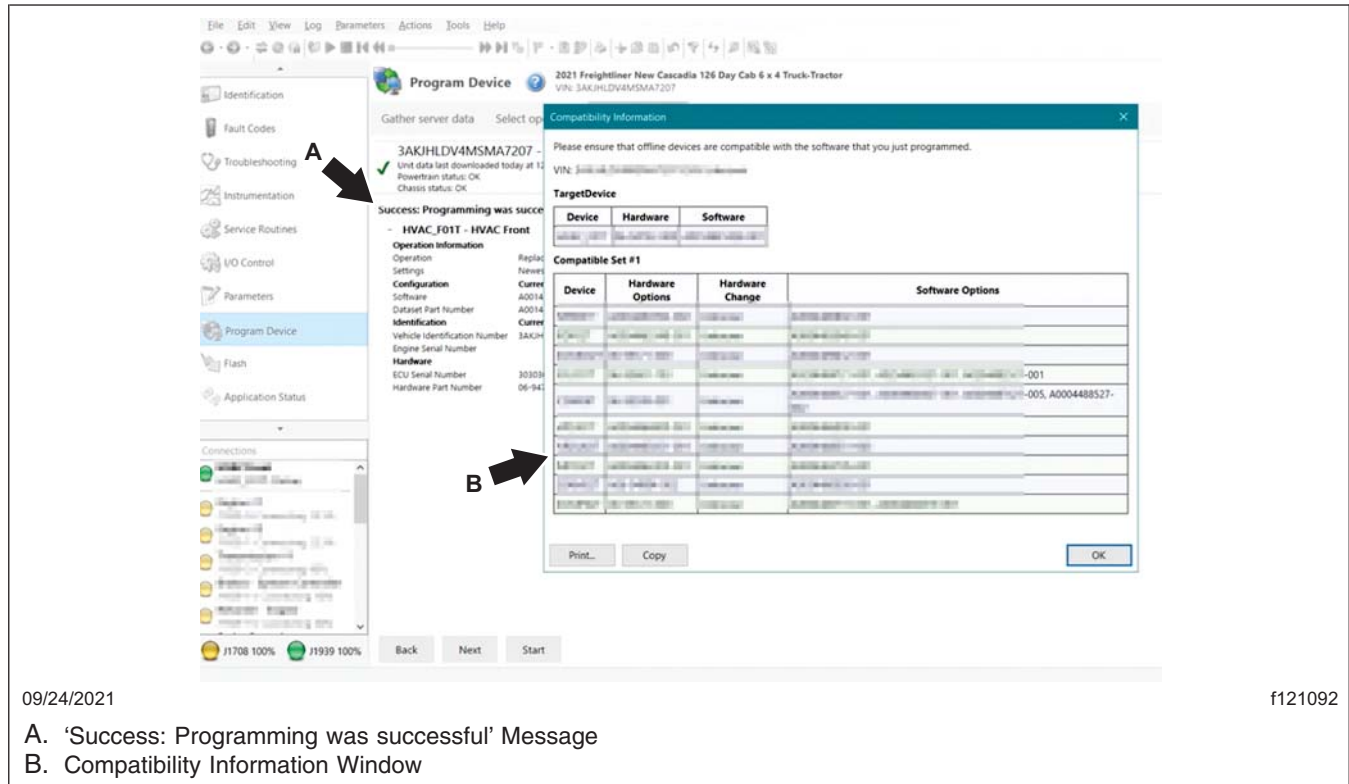

Fig. 7, Successful Programming Message and Compatibility Window
11. When programming is complete, the message ‘Success: Programming was successful’ appears on the screen indicating the XMC ECU has been successfully updated. See Fig. 7.
If the ‘Compatibility Information’ window appears in DiagnosticLink, select ‘Print,’ or capture a screen shot of the ‘Compatibility Information’ window. See Fig. 7.